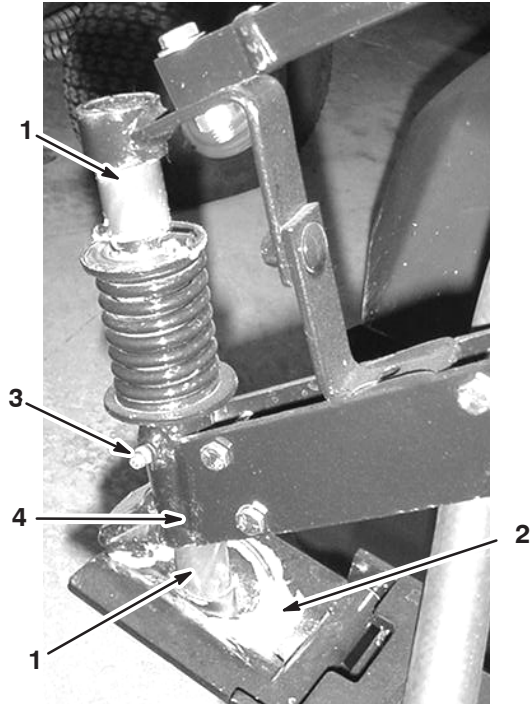

Figure 41
1. Manually place grease on the support shaft and within the ball seat of the hinge plate as shown in Figure 41.
2. Pump grease into the fitting located below the spring until grease can be seen coming out of the bottom of the pivot assembly (Fig.41).